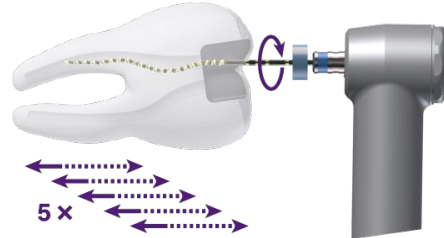

Figure 2
- Use very long gentle strokes to progress down to working length (WL) (Fig. 2). Apply very light apical pressure and allow the file to progress passively along the canal. After 5 long strokes, remove and clean the file. Repeat until the working length is reached. Usually, it should be reached in one or two attempts (each attempt is 5 long strokes). Clean the flutes from any debris prior to re-insertion.